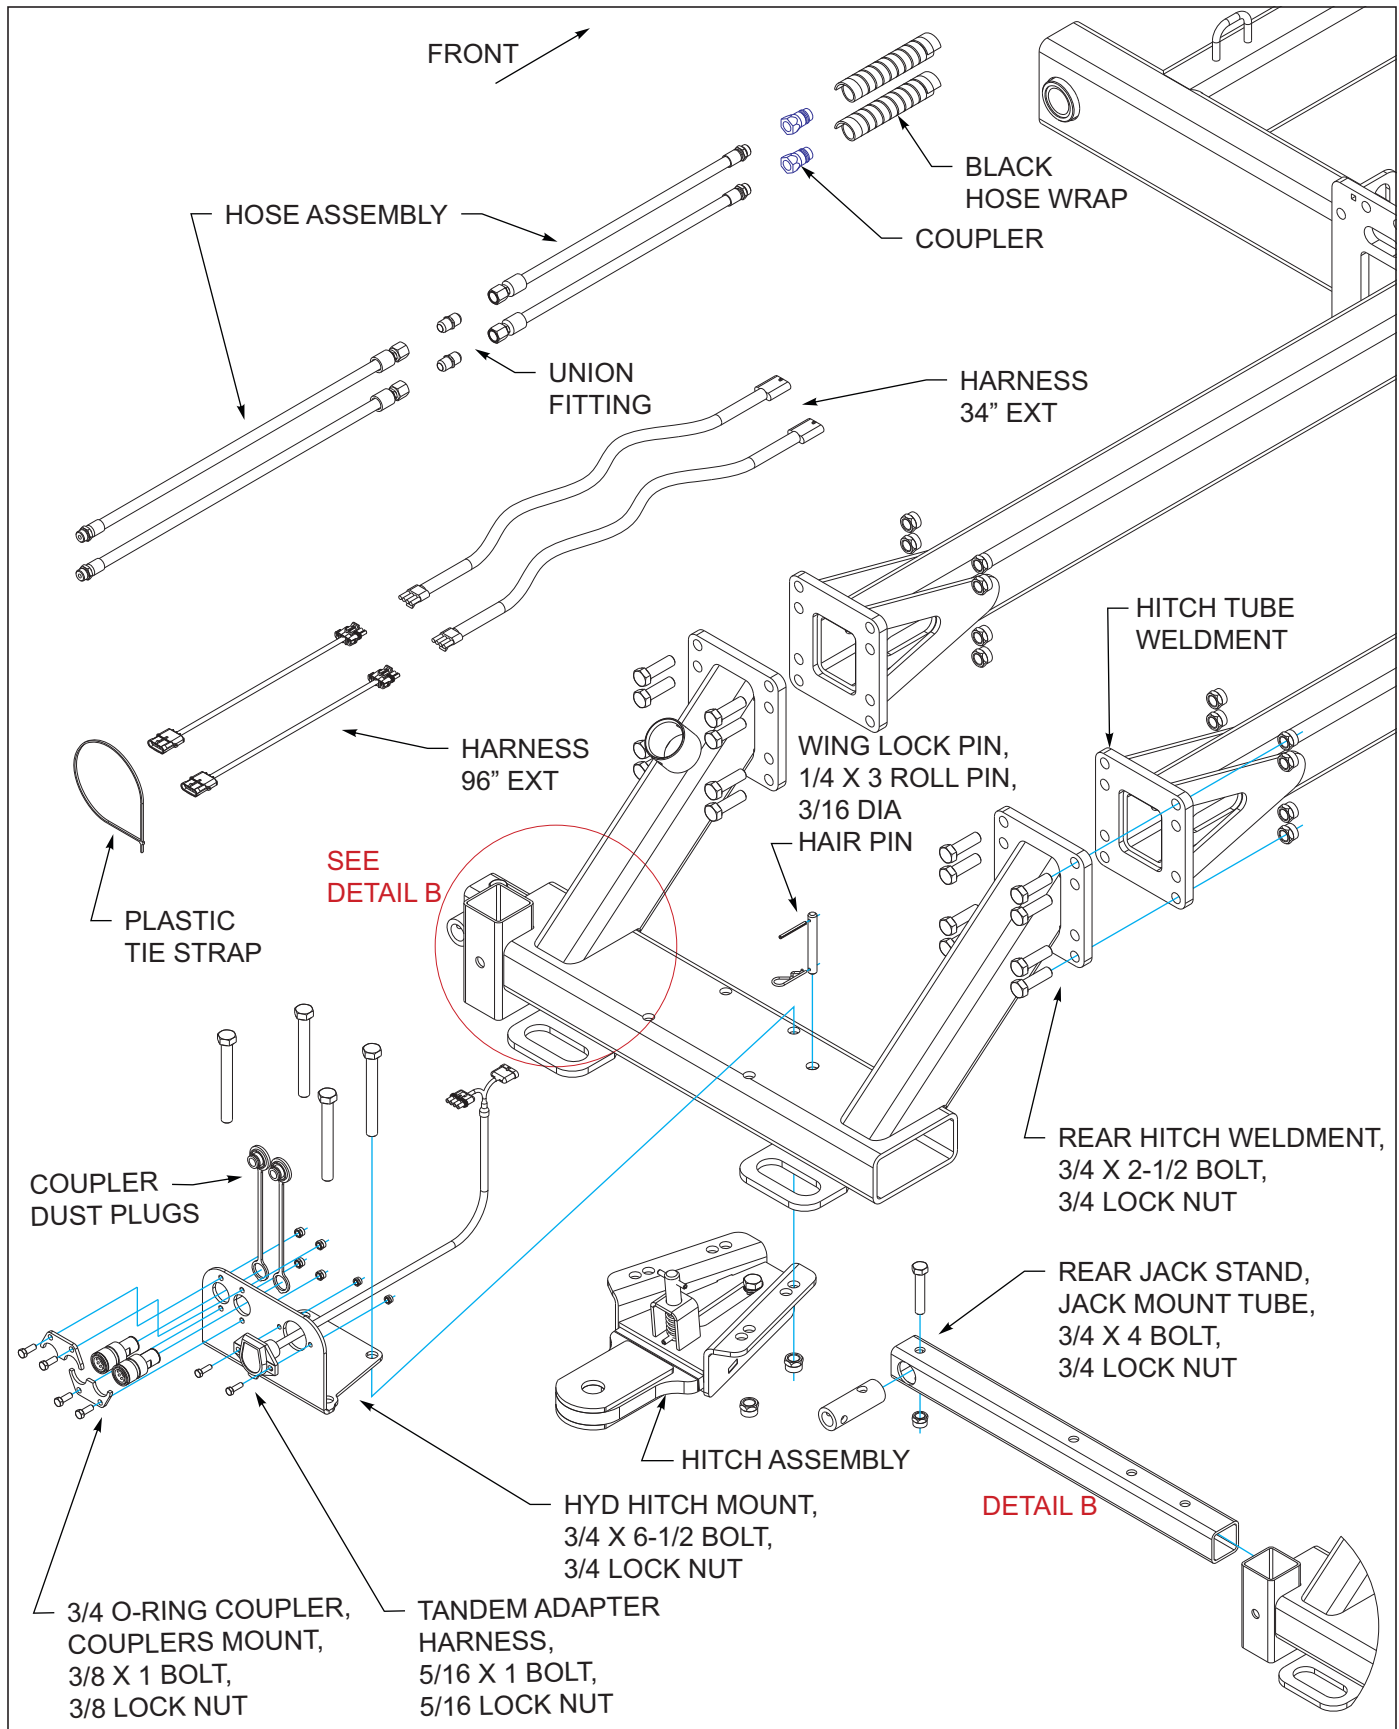

Figure 3-48: Rear Tow Hitch Installation (2 of 2)
5. Attach rear hitch weldment to rear of hitch tube weldments using 3/4 x 2-1/2 bolts and 3/4 lock nuts See Figures 3-48.